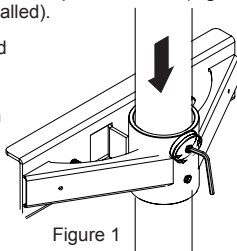

Figure 1
- 1) Slide your mounting arm adapter bracket over the pole and base (Figure 1) (not included, but should be previously installed).